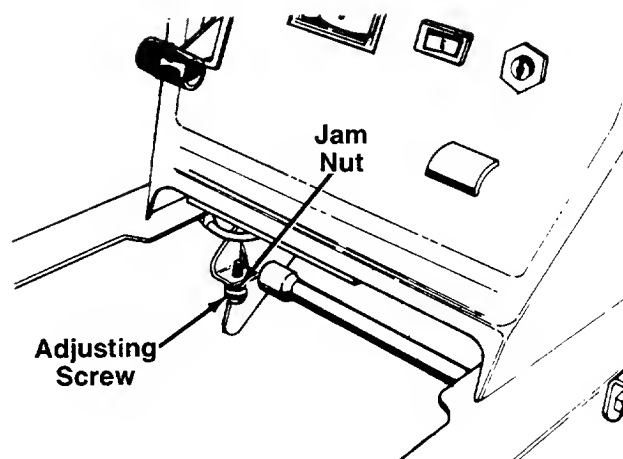

FIGURE 13.
2. Using a 1/2" wrench, loosen the jam nut. See figure 13.